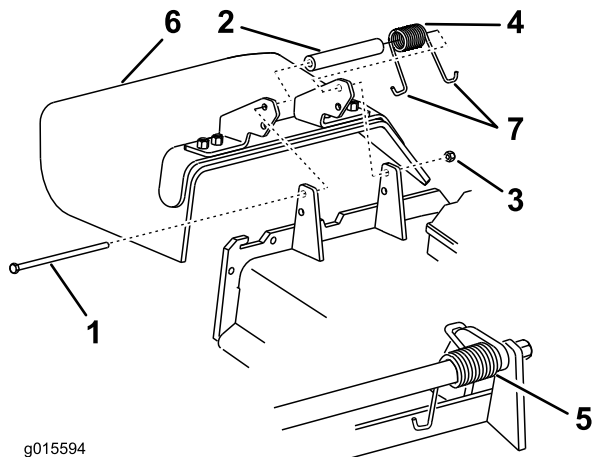

Figure 92
1. Remove the locknut, bolt, spring and spacer holding the deflector to the pivot brackets (Figure 92). Remove damaged or worn grass deflector.
Note: Make sure one J end of spring is installed behind deck edge before installing the bolt as shown in Figure 92.
3. Install bolt and nut. Place one J hook end of spring around grass deflector (Figure 92).